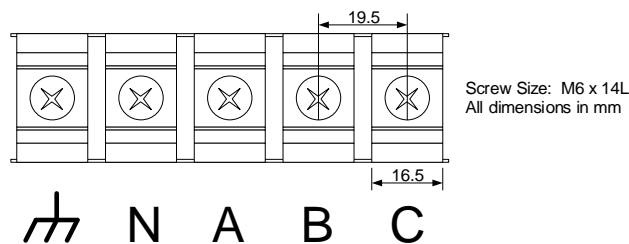

Figure 15 - AC Terminal Block Connections
4. Connect the ground cable as well as the three utility phase cables to the AC terminal block as shown in Figure 15.
5. The neutral connection (N) is provided for 4-wire grid-forming or standalone operation – this terminal should be left unconnected for grid-tie only applications. When the neutral connection is used, **REG 41829 – AC Connection Type** must be set to '1' to indicate 4-wire operation.